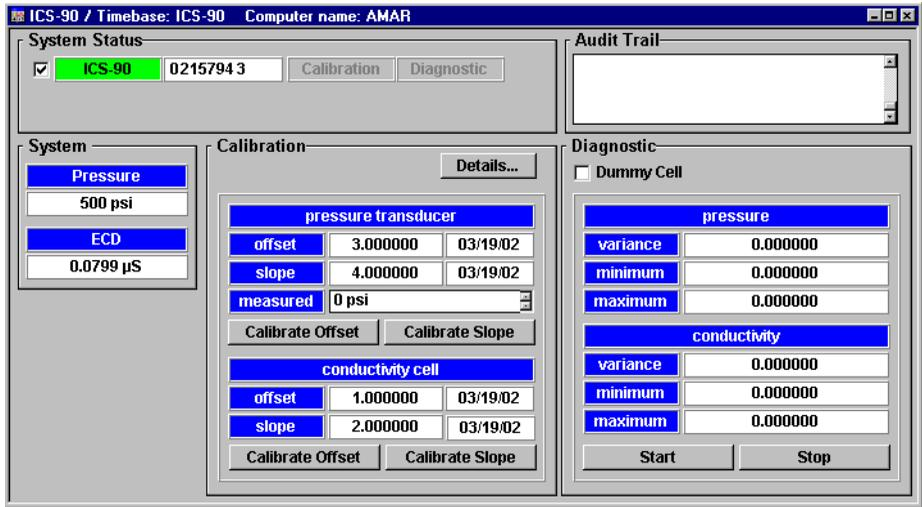

Figure 5-1. Chromeleon Wellness Panel
Chromeleon allows you to perform diagnostic and calibration procedures and to monitor ICS-90 functions from the Wellness panel (see Figure 5-1). This section provides an overview of Wellness panel features. For instructions on performing calibrations, see the following sections:
4. Click the **Calibrate Offset** command button under **pressure transducer** (see Figure 5-1). The pump calibrates the transducer and uploads the new value to Chromeleon. The new offset is stored as the current value.
5. Click the **Calibrate Offset** command button under **conductivity cell** (see Figure 5-1).
7. Disconnect the pump outlet line from port P (2) on the injection valve; connect the line directly to the cell inlet, using the yellow PEEK backpressure tubing (P/N 049715).